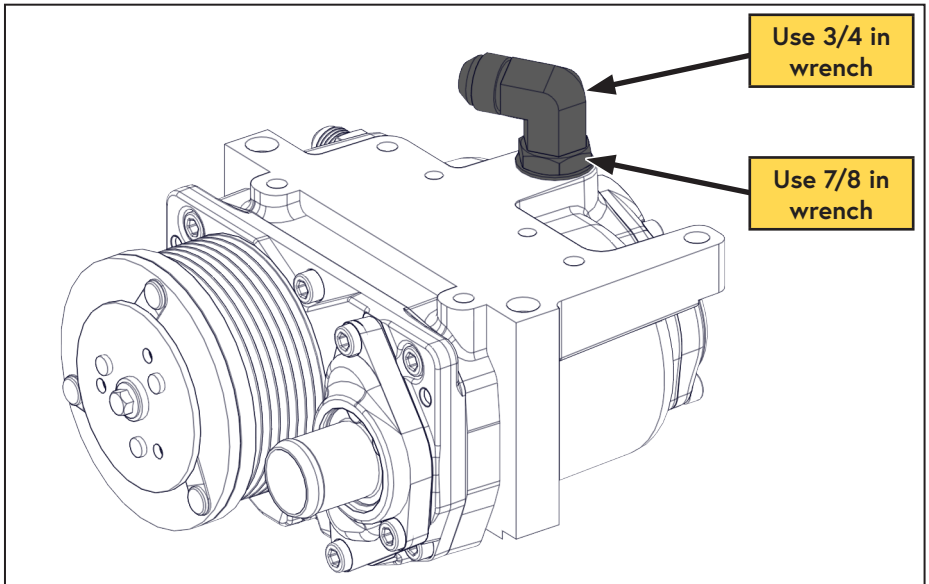

Figure 11 — Compressor discharge fitting
- The compressor discharge fitting will be oriented towards the oil return fitting, use a 3/4 in wrench to hold the fitting and a 7/8 in wrench to ensure the locking nut is tight (Figure 11).